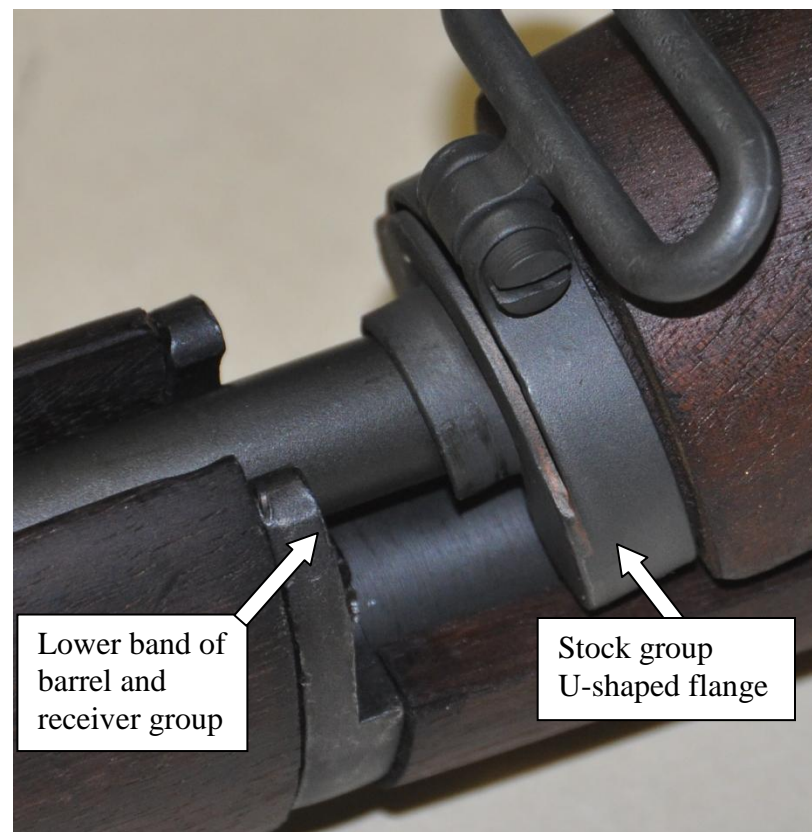

Figure 50. Assembly of stock group
- 1) Pick up the stock group and engage the U-shaped flange on the front of the stock into the lower band, then lower the stock group onto the barrel and receiver group (fig 50).